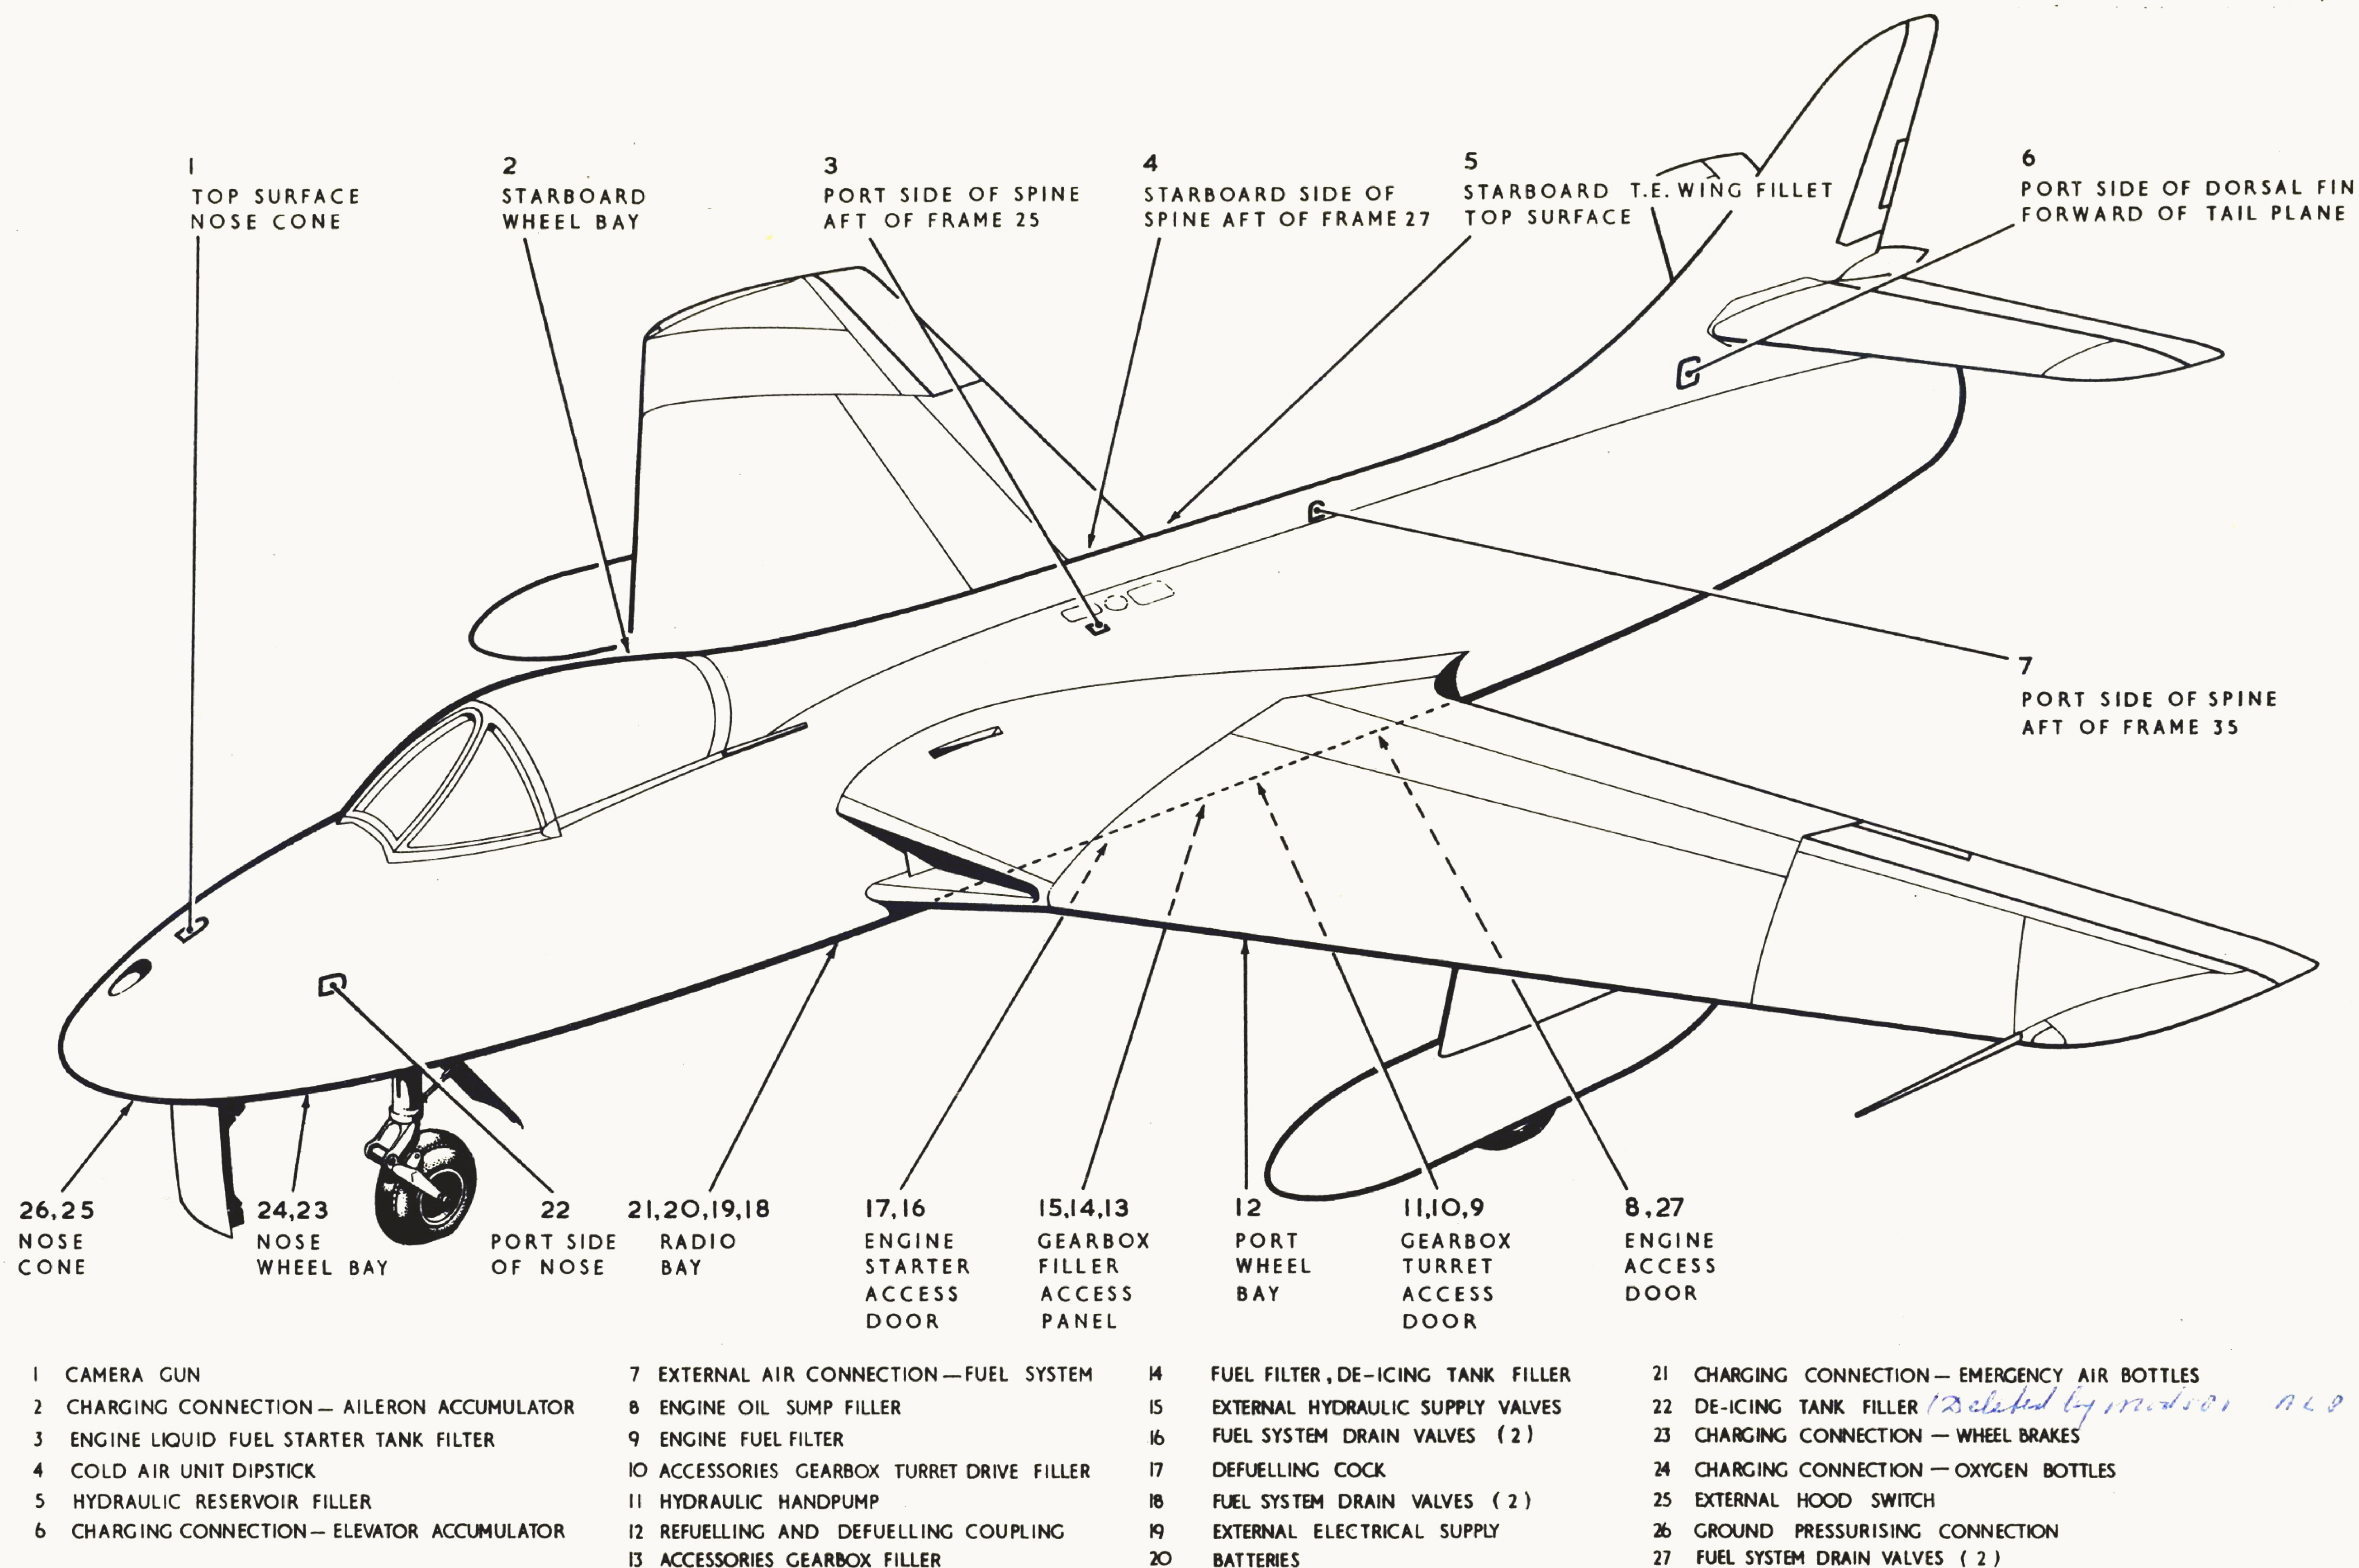

FIG. 1 SERVICING POINTS
6. Access to the filler neck of the hydraulic reservoir is obtained by removing an access door from the top surface of the starboard wing fillet (fig.1, item 5). The filler neck is provided with a sight glass to facilitate checking the level. If, with the aircraft standing on its alighting gear with the hydraulic accumulators inflated and fully charged and the landing flaps and air brake up, the level no longer overlaps the white background below the sight glass, the reservoir must be topped up. To top up, remove the filler cap slowly to release any built up pressure and pour in fluid until it reaches the white background. A container, fitted with a flexible nozzle, should be used to facilitate the operation. When refilling is complete, replace the filler cap securely and mop up any spilled fluid.
the cabin between frames 10 and 11 above the cabin shelf. If the pressure is below that indicated in the Leading Particulars, the bottles must be re-charged. An in-situ charging valve, located on the port side of the battery mounting platform and accessible via the radio access door (fig.1, item 21), is provided for the purpose. All four bottles are charged simultaneously through the one valve.
8. Access to the wheel brakes hydraulic accumulators and their charging connection is from within the nose wheel bay, port side. The pressure in the accumulators is indicated on the brake accumulator pressure gauge on the rear of the cabin port shelf. If the air pressure shown on the gauge is below that quoted in the Leading Particulars, after dissipating the hydraulic pressure by operating the brakes until they cease to operate, the accumulator must be recharged through the charging connection in the wheel bay (fig.1, item 23).
they cease to operate, the air pressure should be checked by ~~connecting a pressure gauge to the charging connection~~ and if below that quoted in the Leading Particulars, the accumulator must be recharged (Fig.1, item 2).
When pressure is dissipated prior to recharging, the power control for the ailerons is automatically disengaged and, therefore, it is important to ensure that the pawls of the hydro-booster jacks are re-engaged before flight by holding the aileron and operating the control column, while using the hand-pump (fig.1, item 11).
10. Access to the hydraulic accumulator and its charging connection may be obtained by removing an access door in the port side of the dorsal fin just forward of the tail plane. The access door is provided with a window to enable the accumulator pressure to be checked by reference to a pressure gauge located adjacent to the accumulator. If, after dissipating the hydraulic pressure by operating the controls a number of times until they cease to operate, the air pressure shown on the gauge is below that quoted in the Leading Particulars, the accumulator must be recharged after removing the access door (fig.1, item 6).
11. The two oxygen cylinders are mounted in the nose of the aircraft between Frames 4, 5 and 6 on the starboard side of the aircraft, the in-situ charging valve Mk.8, ^{or MK10} being mounted below them on the forward face of Frame 6, (Fig.1, item 24). Access to both the cylinders and charging valve can be obtained from within the nose wheel bay. The cylinders may be re-charged in-situ to the pressure quoted in the Leading Particulars, through the valve, or the cylinders may be replaced by fully charged cylinders as described in Section 3, Chapter 10 of this handbook. The procedure for in-situ charging is described in A.P.1275A, Vol.1, Section 8, Chapter 3.
12. The two 12 volt batteries are carried on a platform mounted at the bottom of the radio bay in the front fuselage. Access may be obtained via the radio access doors (fig.1, item 20) and the procedure for changing the batteries is as follows:-
13. ~~The de-icing tank is mounted between frames 4 and 5 (Fig.1, item 22), access being obtained by removing a small access panel in the port side of the nose of the aircraft. The tank should be filled up to the level of the filler cap with de-icing fluid to the specification quoted in the Leading Particulars.~~
14. The filler for the liquid starter fuel tank is accessible via a small access panel in the top port side of the centre fuselage, just aft of the main spar (Fig.1, item 3). The dipstick is marked for four starts (approx. $\frac{1}{2}$ gall. per start). The tank should be topped up to the upper start mark on the dipstick. (Care should be taken to ensure that no liquid is spilled as it is detrimental to electric cables etc.)
15. An access door in the top starboard side of the centre fuselage (Fig.1, item 4), between frames 27 and 28 gives access to the cold air unit dipstick and filler orifice. The oil level in the unit should be examined daily and topped-up as necessary with oil as quoted in the Leading Particulars until
16. The engine oil sump is filled under pressure via a self sealing connection which is accessible through the main engine access door (Fig.1, item 8). The sump is provided with a sight glass to indicate the oil level. If level is low as indicated by the sight glass, oil should be pumped into the sump via the self-sealing connection until level is correct. The type of oil to be used is quoted in the Leading Particulars.
17. The accessories gear-box, and the turret incorporated in the drive assembly, are each provided with a filler and dipstick. Access to the gearbox filler is via an access door on the underside of the fuselage forward of the rear spar (Fig.1, item 13) and that of the turret via a larger door situated just aft of the rear spar (Fig.1, item 10). Prior to checking the level, ensure that the dipstick of each unit is pressed right home before removing. If level is low as indicated by the dipstick, replenish until the oil is level with the overflow
18. The fuel system filter de-icing tank is mounted in the engine bay. The tank is filled via two self-sealing couplings mounted adjacent to the bottom access door (fig.1, item14) forward of the rear spar in the centre fuselage. Alcohol is pumped from a ground supply to the aircraft tank. During the process of filling, the displaced air returns to the supply tank via a pipe which contains a sight glass. When alcohol is seen in the sight glass, the aircraft tank is full.